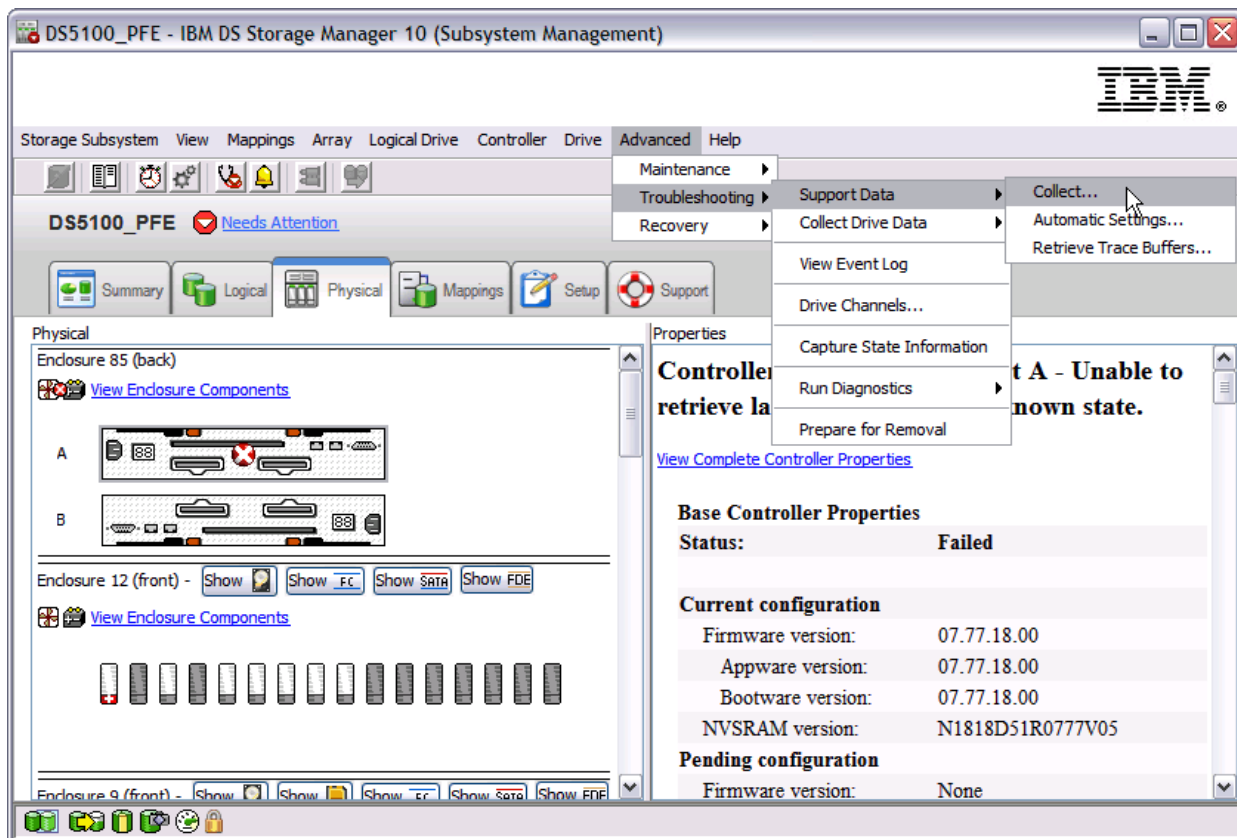

Figure 5-64 Collect All Support Data
1. Select **Advanced** → **Troubleshooting** → **Support Data** → **Collect...** as shown in Figure 5-64.